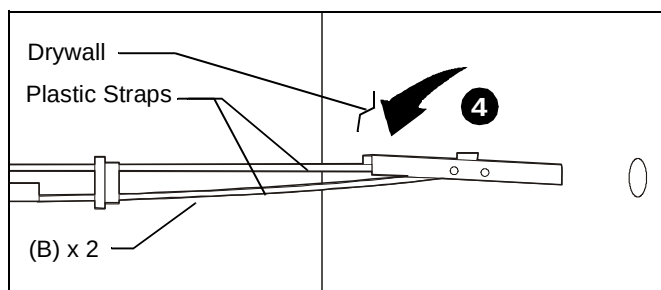

Figure 10
4. Hold metal channel on anchor (B) flat alongside plastic straps and slide channel through hole. (See Figure 10)